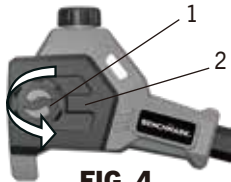

FIG. 4
2. Turn the locking and chain tensioning knob (1) counter-clockwise to remove sprocket cover (2) (Fig. 4).